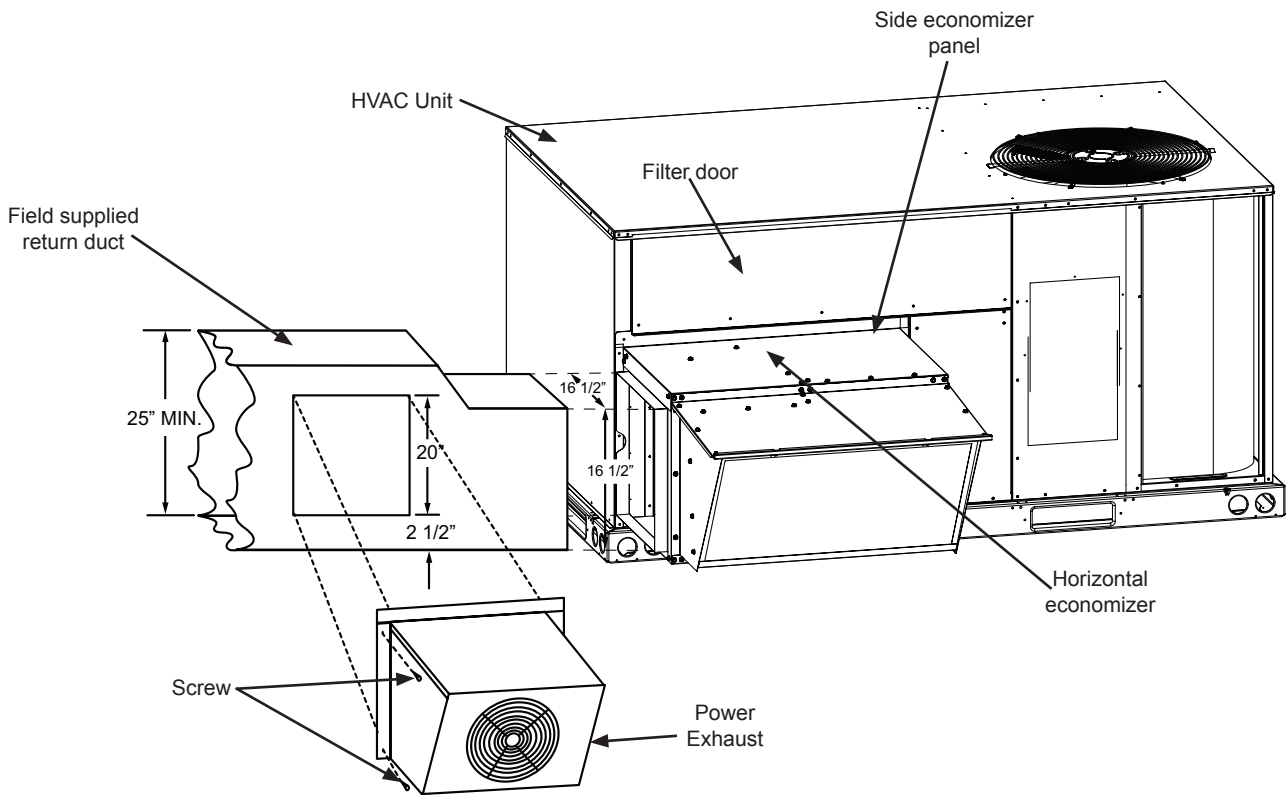

Figure 5
3. Install any economizer related optional sensors. Attach horizontal return duct to horizontal economizer. Ducts should be transitioned to a minimum of 25" high to fit to power exhaust. (See Fig. 5.)
5. Cut 20" x 20" opening in the side of the return duct. Locate the opening and power exhaust within 18" of unit. (See Fig. 5.)
14. Reinstall filter door above economizer, and side panel to the right of the economizer. (See Fig. 5.)